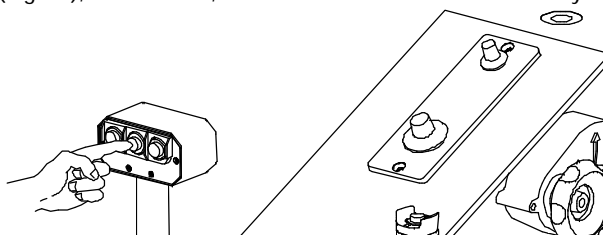

Fig. 13
d) The pushbutton No. 2 (Fig. 13), in the centre, is used to cut semi-hard materials by means of tools with a medium linear development.